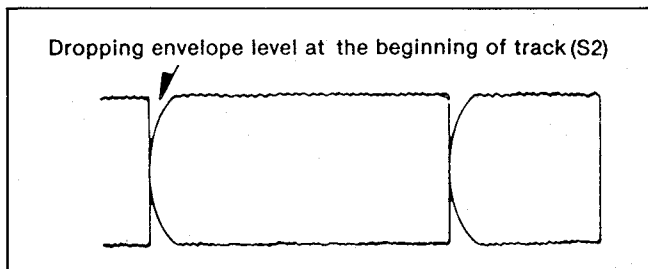
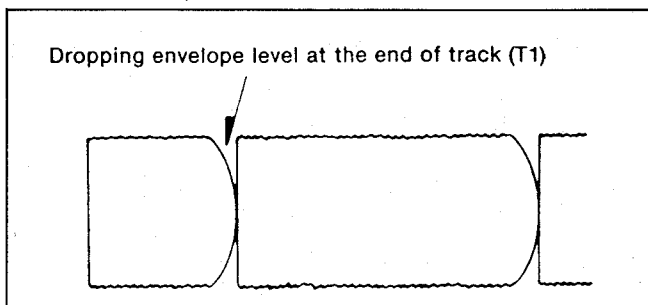
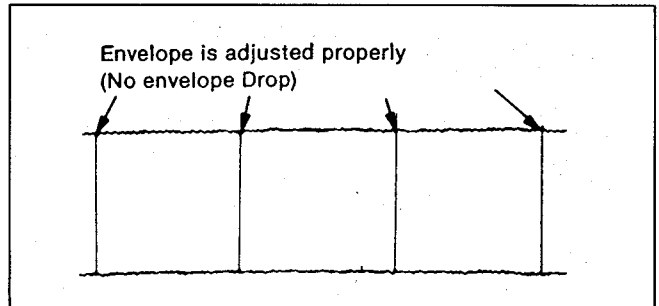

Fig. T10
Fig. T11
Fig. T12
- (3) When the scope display is shown in Fig. T10 adjust the height of S2 so that the wave looks like Fig. T12.
- (4) When the scope display is shown in Fig. T11. Adjust the height of T1 so that the wave form looks like Fig. T12.